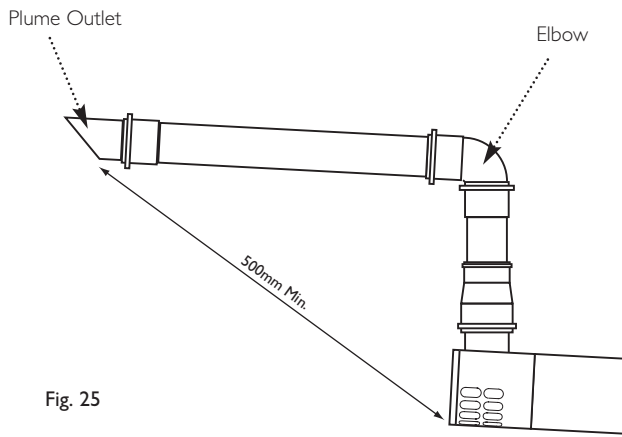
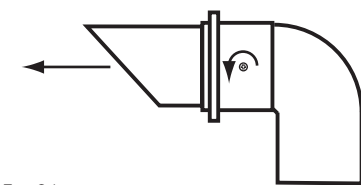

Fig. 25
Fig. 26
16. It is also possible to separate the plume outlet from the 93° elbow to allow the flue to be installed as shown in Fig. 25.
17. To do this, first slacken the two screws retaining the plume outlet to the elbow, and remove the outlet (Fig. 26). The elbow can now be used to connect the vertical to horizontal 60Ø exhaust (Fig. 25). Retighten the screws in the elbow.